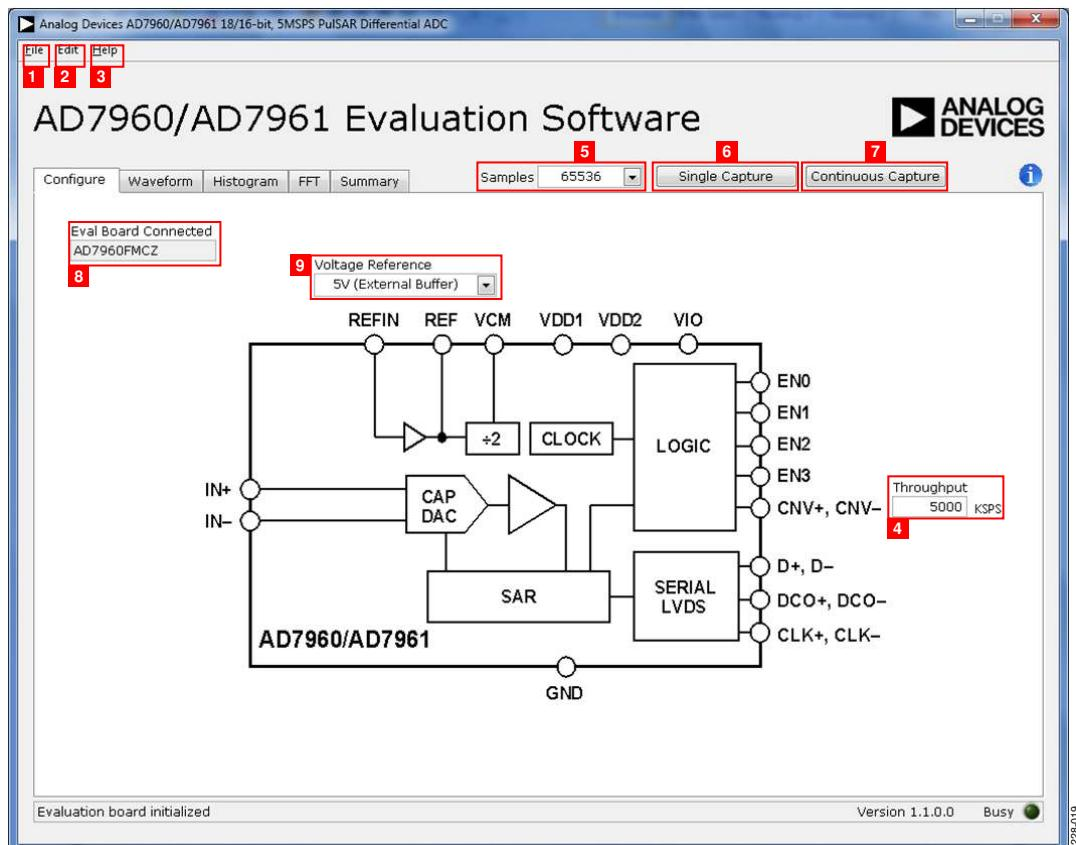

Figure 19. Setup Screen
1. From the **Start** menu, select **Programs>Analog Devices>AD7960_61 Evaluation Software**. The main window of the software then displays (see Figure 19). If the evaluation system is not connected to the USB port via the **EVAL-SDP-CH1Z** when the software is launched, a connectivity error displays (see Figure 17).
This section describes the full software operation and all windows that appear. When the software is launched, the panel opens and the software searches for hardware connected to the PC. The user software panel launches as shown in Figure 19. The labels listed in this section correspond to the numbered labels in Figure 19.
The File menu, labeled 1 in Figure 19, offers the choice to